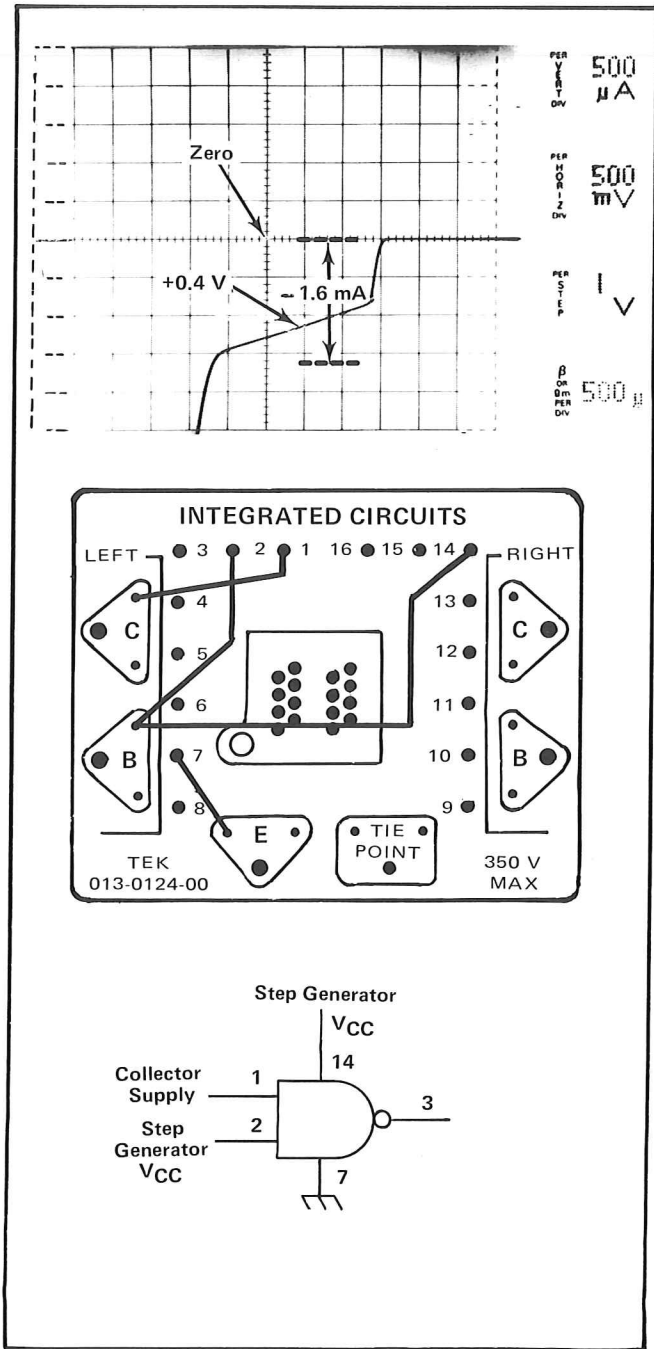

Fig. 7. Setup and Type 576 display for measuring  $I_{IN} (0)$ .
b. Connect the patch wires to the IC adapter as shown in Fig. 7.2
c. Set the LEFT-OFF-RIGHT switch to LEFT and turn the VARIABLE COLLECTOR SUPPLY clockwise until the input voltage is at 0.4 V (see the display in Fig. 7).